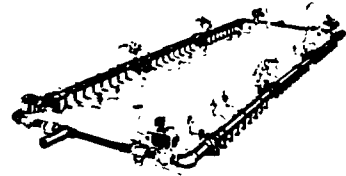

FIG. 28—Pilot Connections
2. Connect a thermocouple with female connection from the left front pilot burner to the BASO 500 series automatic pilot valve in the main gas line. Connect a thermocouple with male connection (has smaller diameter tube) from each remaining pilot burner of the left front pilot burners (See Fig. 28), to one of the BASO 818 series automatic pilot valves.